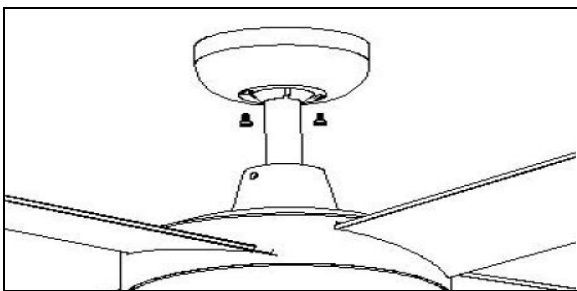

Fig. 6
- Cover the mounting bracket with the canopy. Ensure all electrical wiring is tucked inside the canopy and that they are not damaged during this step. Secure the canopy to the hanger bracket using the screws provided. (Fig 6)